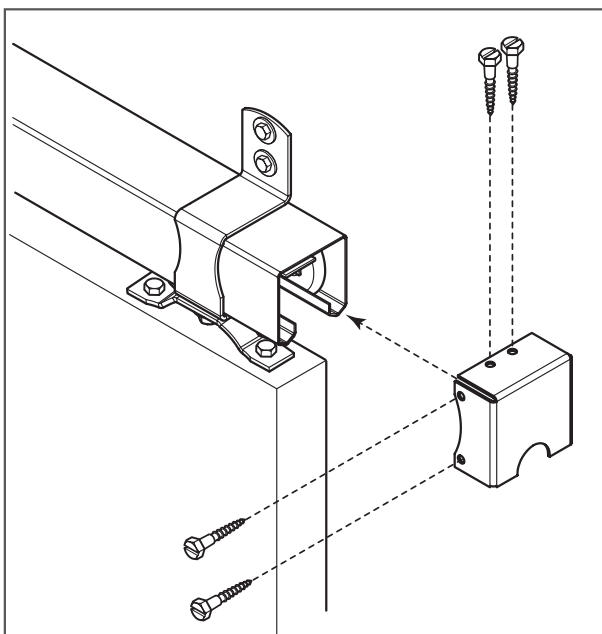

Figure 11
13. Slip the end caps (C.) over the ends of the box track. Secure in place using self tapping screws (F.) (Figure 11).